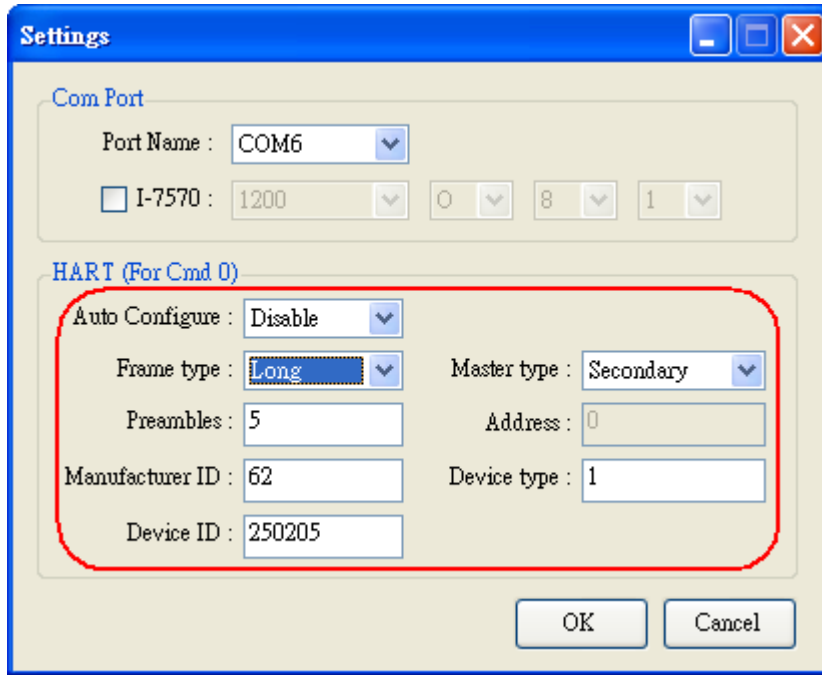

Figure 4-6: Long frame settings
- (2) If the option of “Frame type” field is “Long”, then “Master type”, “Preambles”, “Manufacturer ID”, “Device type”, “Device ID” fields need to be configured like Figure 4-6.